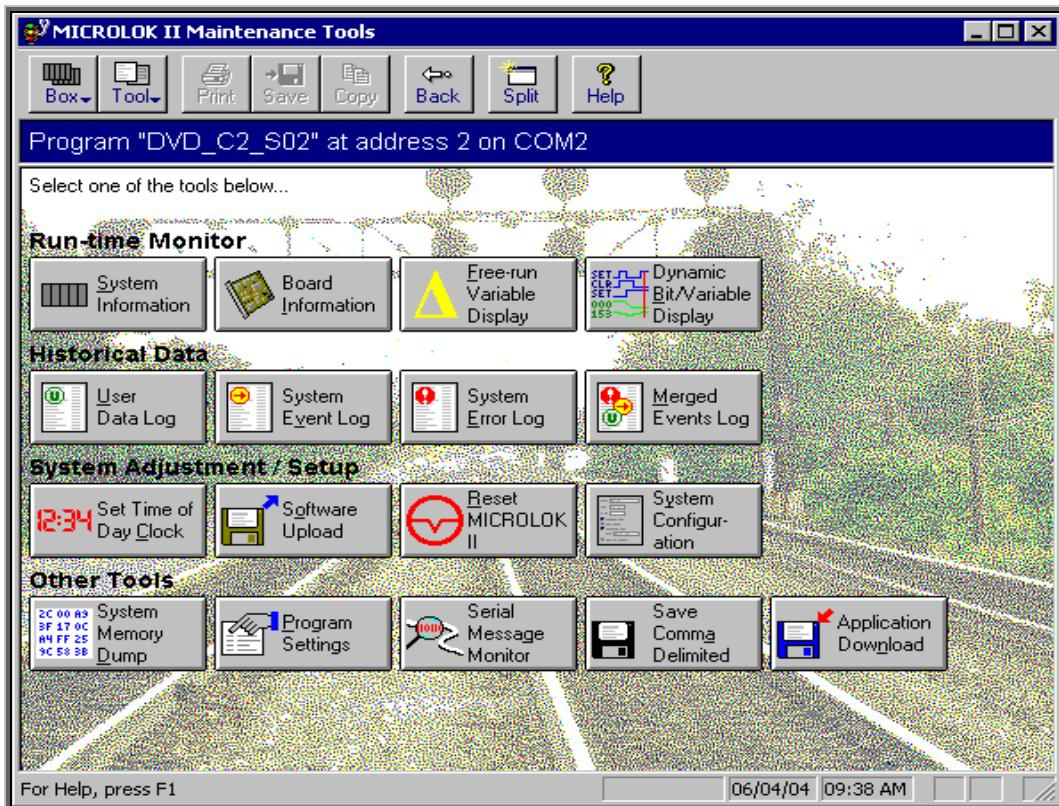

Figure 5-1
- ❖ The Maintenance Tools program provides these tools as selections on the Microlok II Maintenance Tools main menu, as shown in Figure 5-1.
- ❖ The Maintenance Tools program main menu displays buttons as shown in Figure 5-1. These buttons activate the primary functions of the program.
- ❖ The Maintenance Tools main menu (Figure 5-1) will appear after the program completes loading.